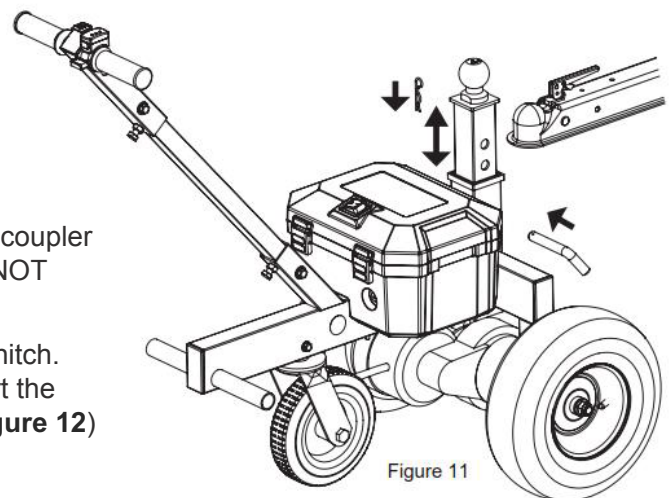

Figure 11
1. Move the dolly close to the trailer, adjust the ball hitch mount to correct height. Normally leave the hitch ball 100-200mm over the weld spots, tighten the hitch ball mount with latch and pin. (See Figure 11)